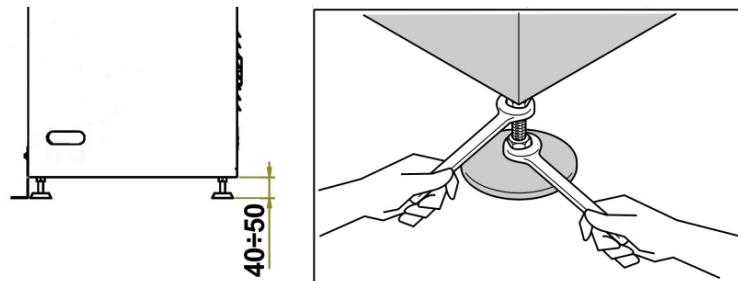

fig. 7.20
5. Adjust the screw nuts and lock nuts of the adjustable feet (fig. 7.20), to adjust the machine to a height of approximately 40-50mm from the ground. Once in position, secure the rear brackets.